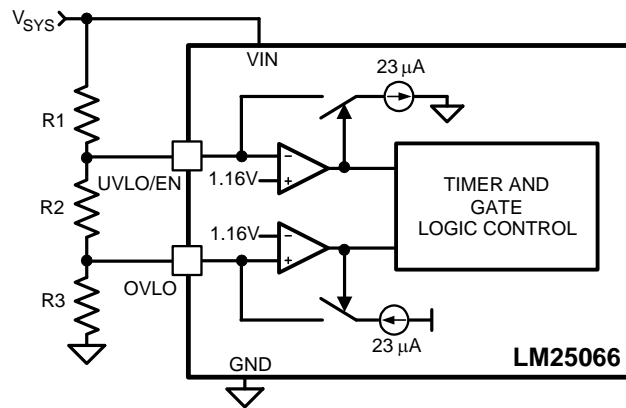

Figure 42. UVLO and OVLO Thresholds Set By R1-R3
**Option A:** The configuration shown in Figure 42 requires three resistors (R1-R3) to set the thresholds.